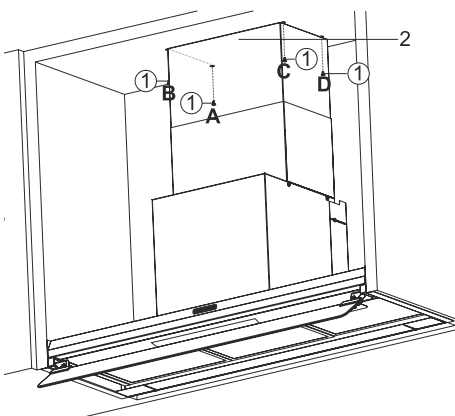

Fig. 17
- 7.** → Pull the interior flue up to the top section of the cabin (Fig. 17).
Using the 4 connection screws through the A, B, C, D points to the kitchen cabin (Fig. 17).